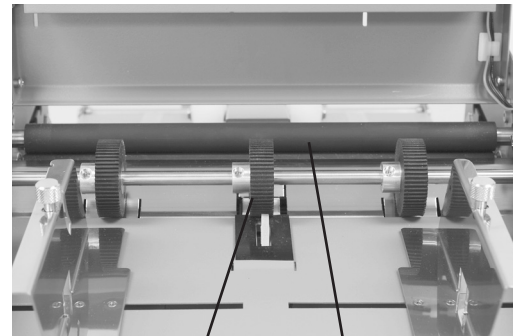

Fig. 15a
1. Make sure machine is turned off and unplugged. All folder/sealers have three infeed tires, four rubber fold rollers and two metal seal rollers (Fig. 15a).